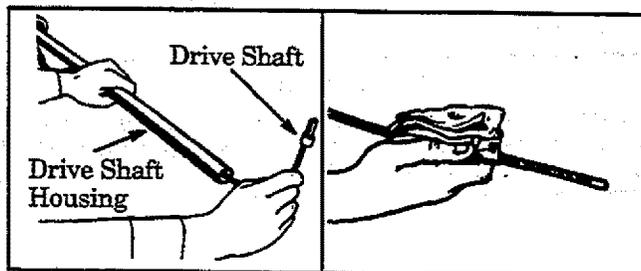

Figure 23
3. Remove the drive shaft from the drive shaft housing. Figure 23 .
5. Using a clean cloth, wipe the drive shaft thoroughly to remove any old grease. Figure 23 .
8. Replace drive shaft in the drive shaft housing. Figure 23 .